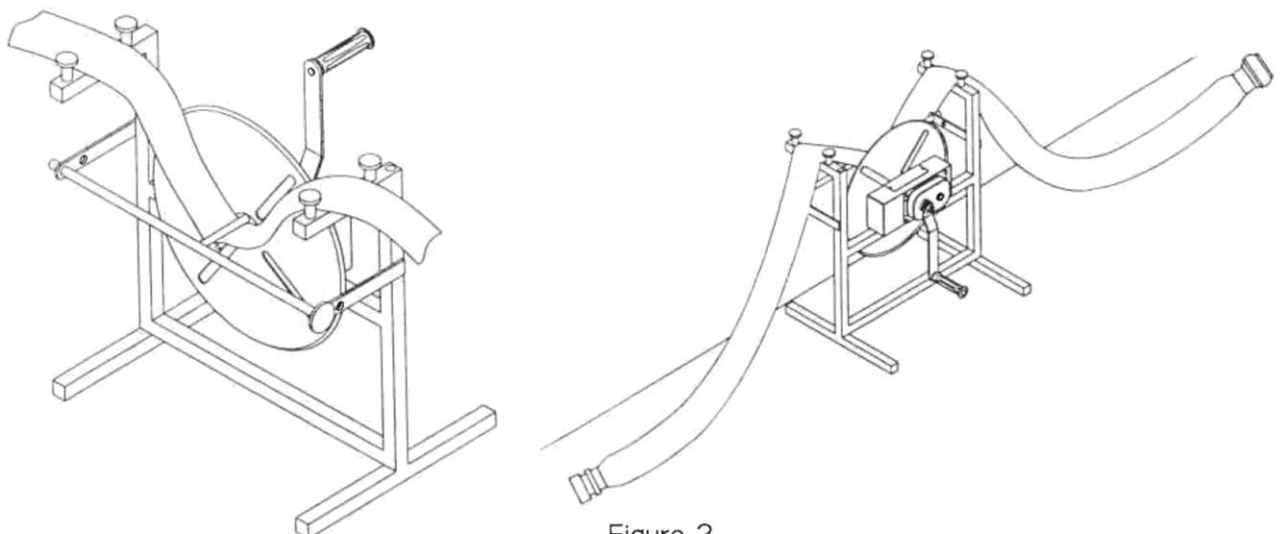

Figure 2.
- 2.Double side winding-----when the hose is filled with or without water.(As Figure 2.)